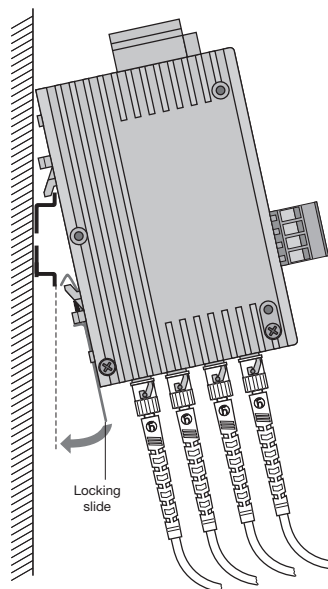

Fig. 6: Mounting repeater on DIN rail
- ▶ Insert the upper snap-in hooks of the repeater into the DIN rail and press the underside (as shown in Fig. 6) onto the rail until it engages.